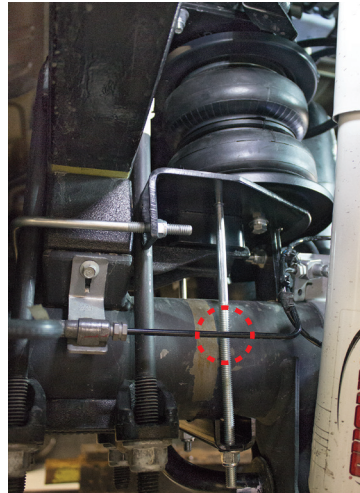
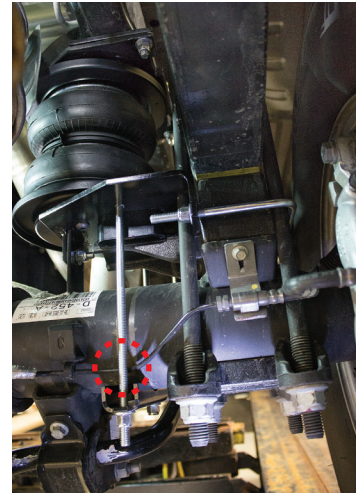

fig. D.23
fig. D.24
On the driver's side, the long carriage bolt in the lower bracket will be between the hard brake line and axle (Fig. D.23). On the passenger's side, the carriage bolt will be on the back side of the brake line (Fig. D.24).
6. Figures D.23 & D.24 show the lower bracket installed. Note the location of the carriage bolts in conjunction with the hard brake and ABS lines.